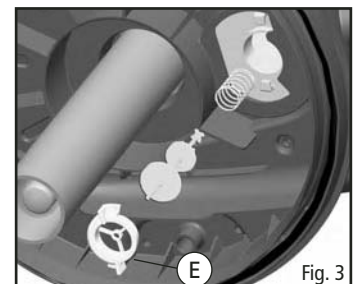

Fig. 3
- 10) Clean the Filter Case (Q) with water, particularly around the top edge where the lid sealing O-ring (P) is seated.
- 11) If necessary clean the Cleaning Indicator (U) after disassembling it as follows: 1) remove the retaining flange (E) by rotating it counter-clockwise (the Mode Selector Switch (V) must be set to the “Filtering Mode” position), 2) remove the indicator and its spring. Rinse all parts in water and reassemble them with care. (Fig. 3 - Fig. 4)